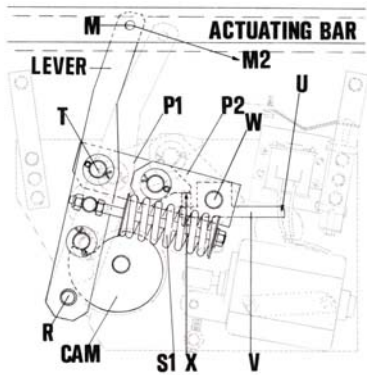

Figure 15: Sequence of Motor Operation
- h. Adjust toggle link assembly stop (Figure 15) as follows: